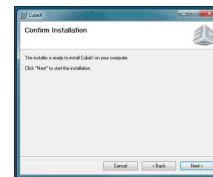

Fig. 55
5. Click next to begin the installation. A message "if you want to let the CubeX software make changes to your computer" will appear, select yes. (Fig. 55 & 56)